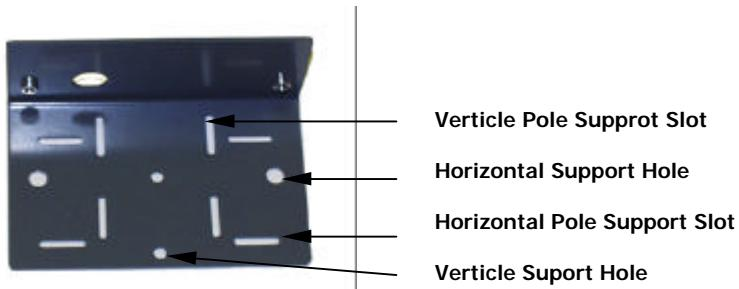

Figure 4.1-1 TIM Universal Mounting Bracket
Williams Telemetry offers several TIM meter specific index dial covers and universal brackets with instructions on installing the TIM to type specific meters. See Figure 4.1-1 TIM Universal Mounting Bracket. The mounting brackets may be installed on a flat, smooth surface, rigid pole, or any other type of vertical foundation.
2.	If the bracket is mounted on a horizontal pole , thread band clamps through horizontal pole mounting slots (see Figure 4.1-1) and around pole. If the bracket is mounted on a vertical pole , thread band clamps through vertical pole mounting slots (see Figure 4.1-1) and around pole.